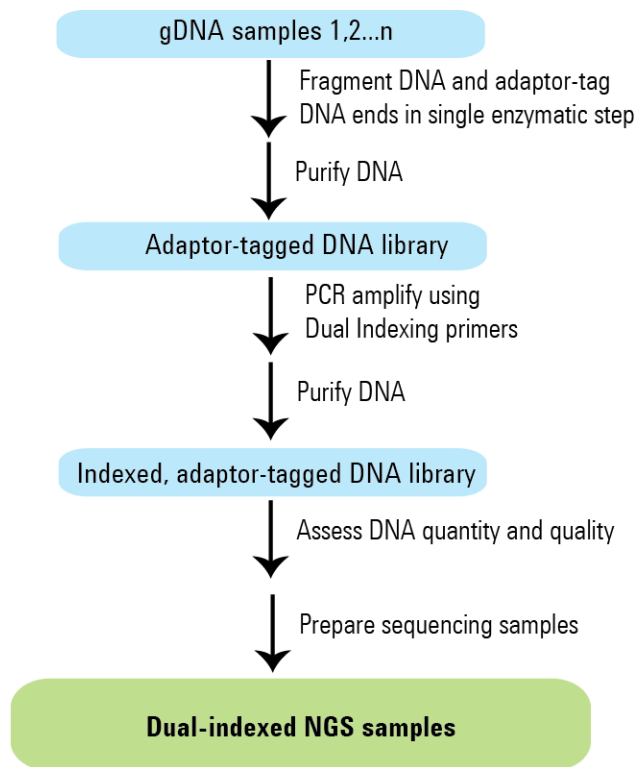

Figure 2 Overall sequencing sample preparation workflow.
Figure 2 summarizes the SureSelect^{QXT} whole genome library prep workflow for samples to be sequenced using the Illumina paired-read sequencing platform. Each sample to be sequenced requires an individual library preparation reaction. The samples are then tagged by PCR with dual index sequences. Depending on the experimental design, up to 96 samples can be pooled and sequenced in a single lane using the dual index tags that are provided with SureSelect^{QXT} Library Prep kits
- Dual index assignments for the DNA samples can affect sample placement decisions at the beginning of the workflow. For example, all samples on the same row of the DNA sample plate must be assigned to the same P5 indexing primer during sample indexing (see Figure 2). It is important to review and understand the guidelines for assignment of dual indexing primers on page 47 while planning sample placement for the run to ensure that the indexing design is compatible with the initial DNA sample placement.